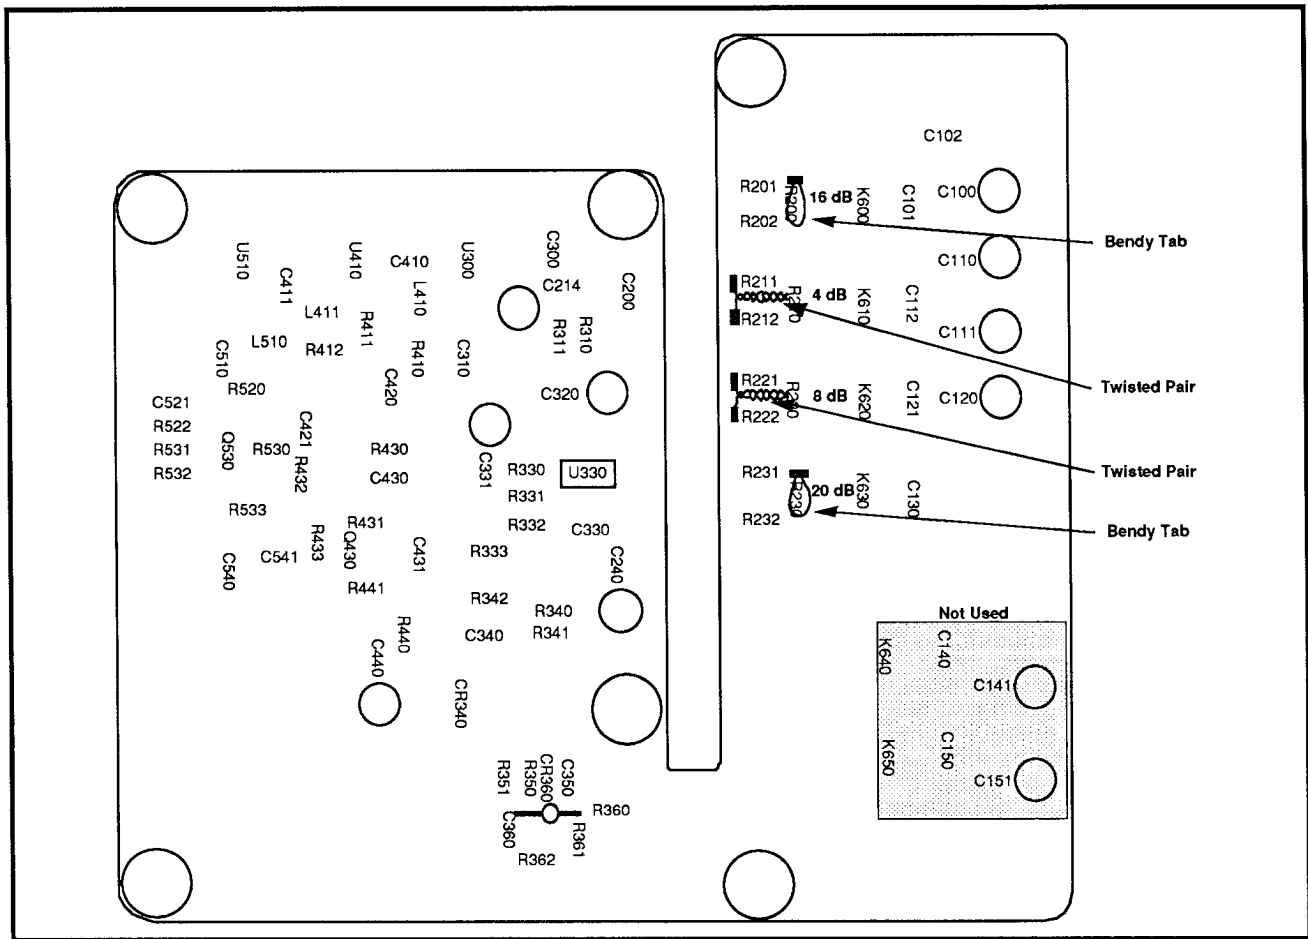

Figure 4-18. Twisted pairs and bendy tab locations on the Attenuator (Amplifier board).
- (7) Set the spectrum analyzer/tracking generator system reference level such that the entire trace is on screen.
- (8) Save the trace in the A register, then enable B, C MINUS A mode by pressing DSPL 2.
- (9) Turn off all displays except the B DISPLAY.
- (10) Note the ATTEN value at the upper right corner of the display. Enter the value noted by pressing INPUT 5, entering the noted value, and terminating with W.
- (11) There should be a straight horizontal line at the center of the screen. If not, check to see that B, C MINUS A OFFSET is set to CENTER (DSPL 3).
- (12) Enable the 4 dB attenuator at the tracking generator output by pressing UTIL 5 7 4 Y. Press any menu button to exit the menu.
- (13) Increase the reference level by 4 dB.
- (14) Check that the trace is within 1 dB of center screen at 100 MHz, and check that the total excursion of the trace from 100 kHz to 1.8 GHz is no more than 1 dB.
- (15) If the trace is not within 1 dB of center screen, add a "bendy" tab (adjustment wire) to the attenuator pad. See Figure 4-18.
- (16) Adjust the bendy tab such that the trace is within 1 dB of center screen.
- (17) Enable the 8 dB attenuator at the tracking generator output by pressing UTIL 5 7 8 Y. Press any menu button to exit the menu.
- (18) Increase the reference level by 4 dB.
- (19) Check that the trace is within 1 dB of center screen at 100 MHz, and check that the total excursion of the trace from 100 kHz to 1.8 GHz is no more than 1 dB.
- (20) If the trace is not within 1 dB of center screen, add a bendy tab to the attenuator pad. See Figure 4-18.
- (21) Adjust the bendy tab such that the trace is within 1 dB of center screen.
- (22) Enable the 16 dB attenuator at the tracking generator output by pressing UTIL 5 7 16 Y. Press any menu button to exit the menu.
- (23) Increase the reference level by 8 dB.
- (24) Check that the trace is within 1 dB of center screen at 100 MHz, and check that the total excursion of the trace from 100 kHz to 1.8 GHz is no more than 1 dB.
- (25) If the trace is not within 1 dB of center screen, add a bendy tab to the attenuator pad. See Figure 4-18.
- (26) Adjust the bendy tab such that the trace is within 1 dB of center screen.
- (27) Enable the 20 dB attenuator at the tracking generator output by pressing UTIL 5 7 20 Y. Press any menu button to exit the menu.
- (28) Increase the reference level by 4 dB.
- (29) Check that the trace is within 1 dB of center screen at 100 MHz, and check that the total excursion of the trace from 100 kHz to 1.8 GHz is no more than 1 dB.
- (30) If the trace is not within 1 dB of center screen, add a bendy tab to the attenuator pad. See Figure 4-18.
- (31) Adjust the bendy tab such that the trace is within 1 dB of center screen.